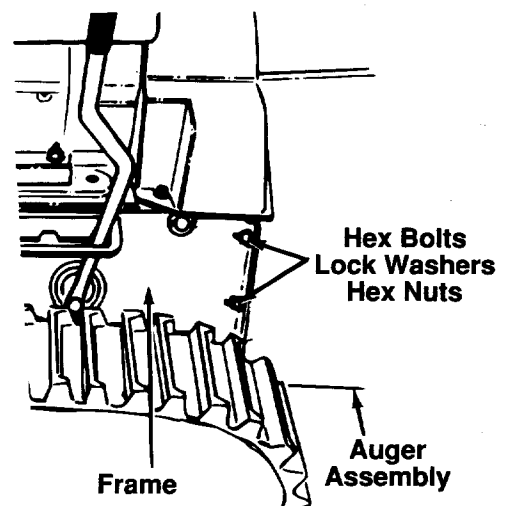

FIGURE 14.
4. Remove the six hex bolts, lock washers and hex nuts which attach the auger housing assembly to the frame. See figure 14.